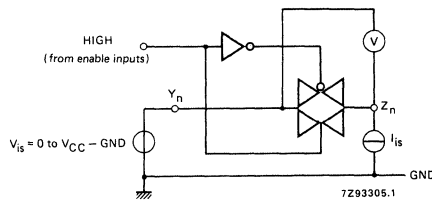

Fig. 6 Test circuit for measuring R_{ON} .
- For test circuit measuring R_{ON} see Fig. 6.